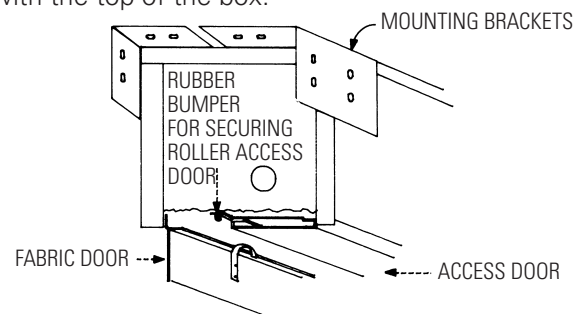

FIGURE 2
4. Remove screw from rubber bumper at each end of roller access door (Fig. 2).